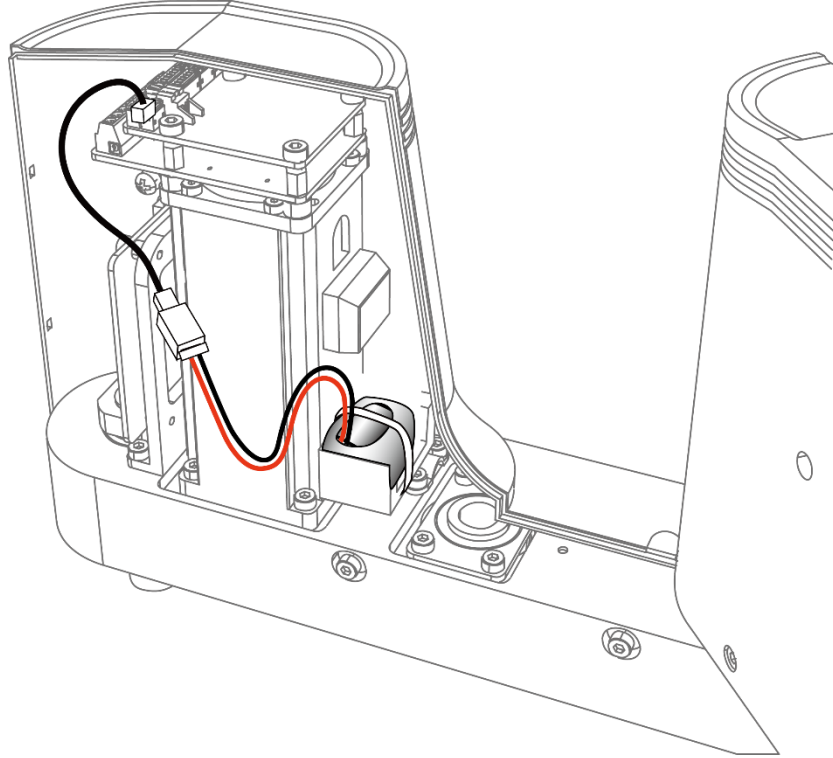

Figure 7.24 Location of battery holder on Forearm
2. Cut off the zip-tie that fixed the original battery, as shown in Figure 7.24.